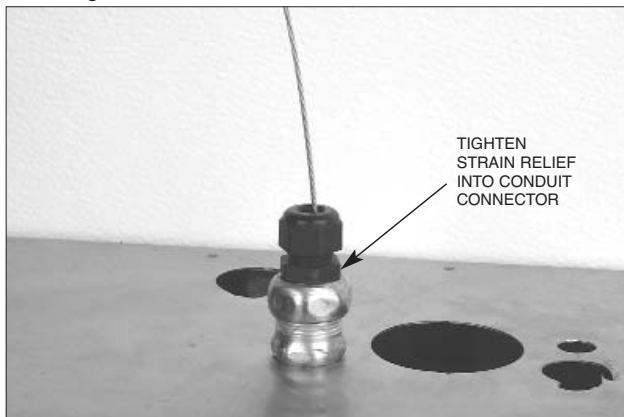

FIGURE 52
7. Tighten the body of the strain relief to the conduit connector. See Figure 52.